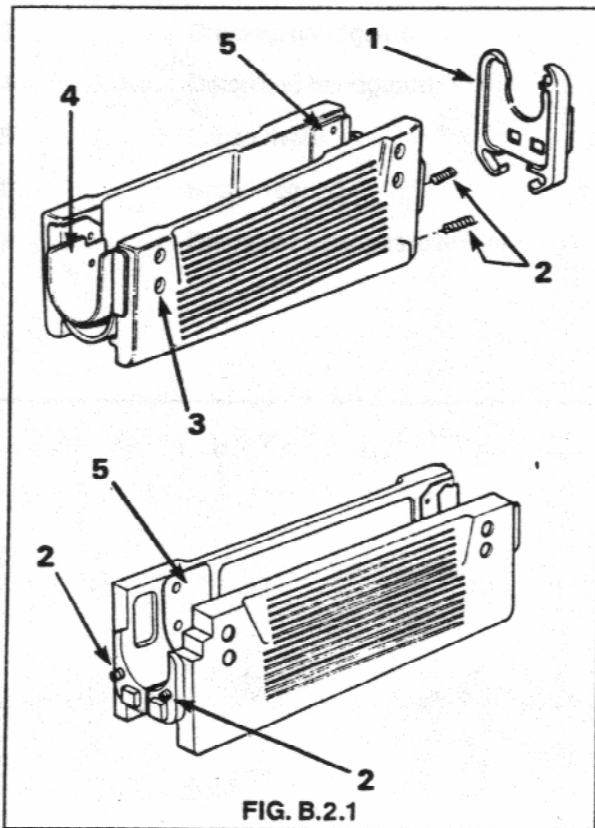

FIG. B.2.1
1. The handguard assembly provides an area for hand contact on the forward section of the weapon to enable control of the weapon to be maintained. The assembly also provides protection for the hand from the heat of the barrel during prolonged firing. The guard which provide the insulation between the barrel and the hand, are manufactured either from a man made fibre or from wood. The two types are interchangeable. See Fig. B.2.1